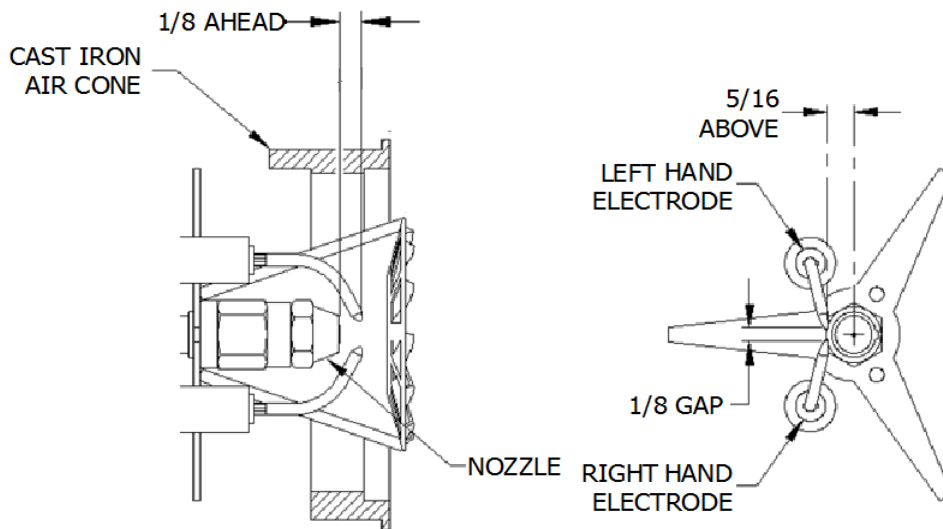
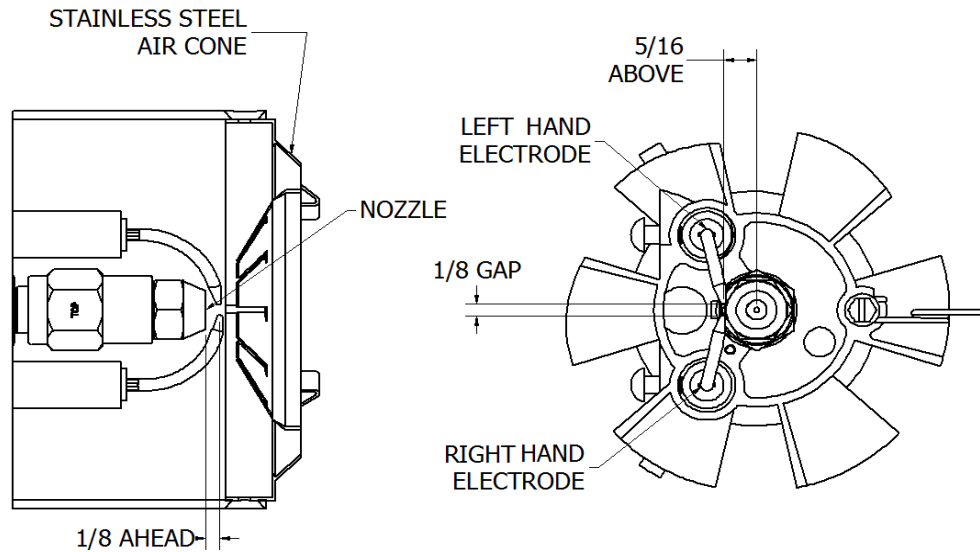

Figure 14–EH Electrode Positions, Factory settings
Figure 15–EHASR Electrode Positions, Factory settings
8. Identify which burner model you have, then measure and verify that the electrode spacing is per Figure 14 or Figure 15 on page 27, if not correct to factory settings.